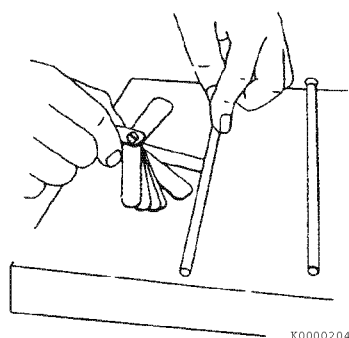

Figure 6-15
3. Use a feeler gauge to measure the gap (**Figure 6-15**). See *Push Rod* on page 6-7 for the service limit.